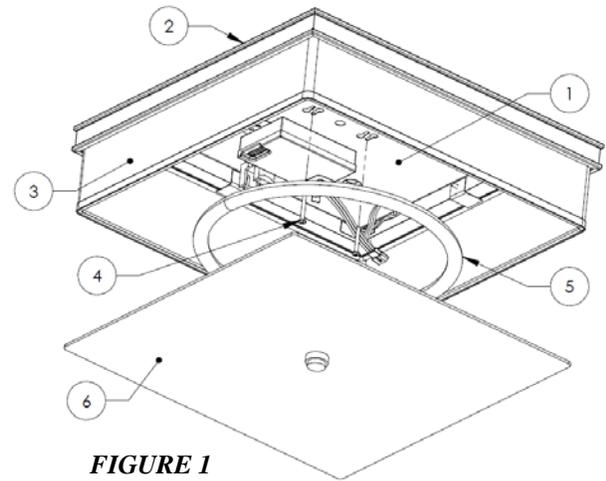

FIGURE 1
- B. Remove fixture from carton, set ceiling-pan assembly aside (shade (3), decorative frame (2) and ceiling-pan (1) are pre-assembled). Open hardware bag and remove contents. (see figure 1)